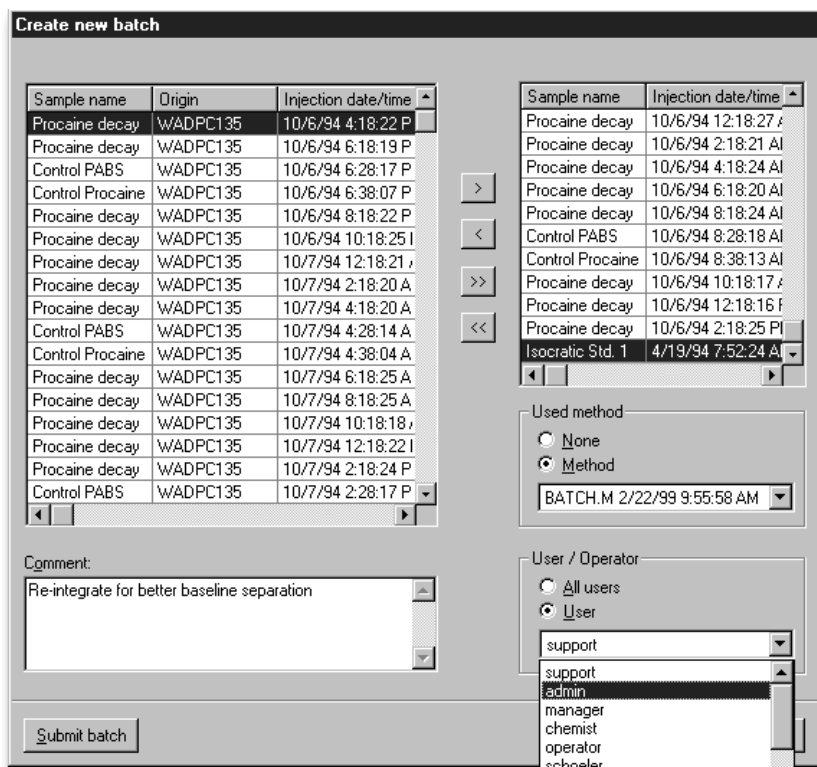

Figure 5
1. Create the batch request from the Agilent ChemStore C/S review client by marking the runs for transfer in the user interface. An authorized user configures the transfer details in an interactive pop-up window (figure 5). These include